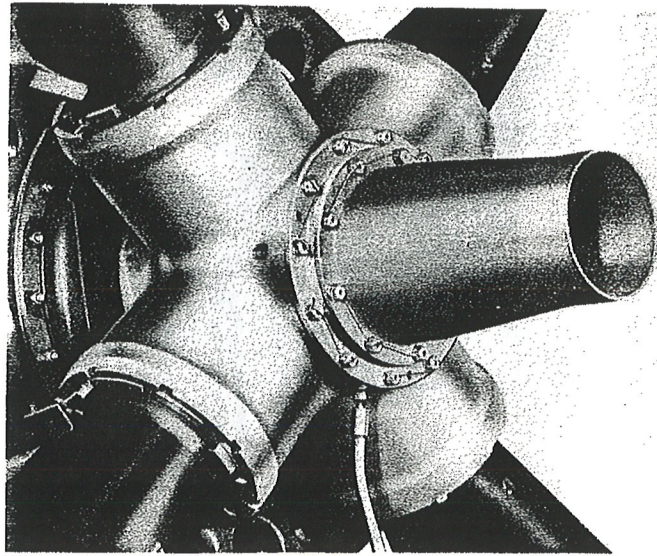

Figure 42—Greasing the Hub
- b. Apply the grease gun to one of the lower fittings until grease appears at one of the open fitting holes. (See figure 42.)